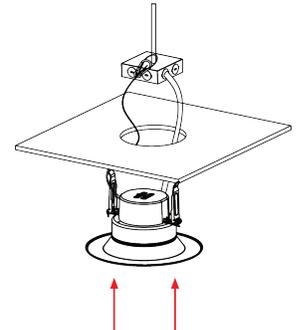

Fig. 14
2. Squeeze the two housing clips so they are in an upright position and then insert luminaire into opening (Fig. 14).